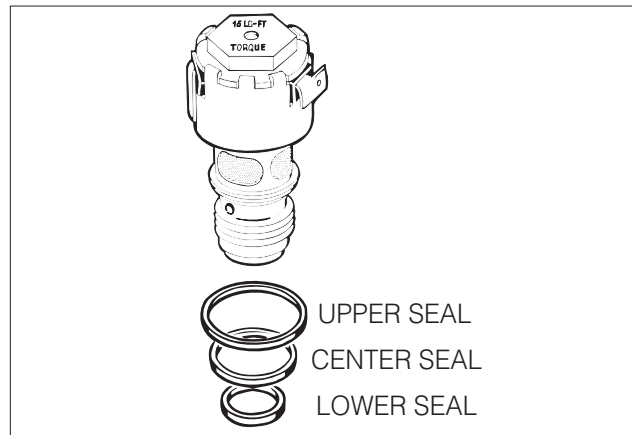

FIG. 33
2. Remove and discard the three rubber seal rings (Fig. 33). If the lower ring stays in the bottom of the housing solenoid bore, remove with a seal pick.